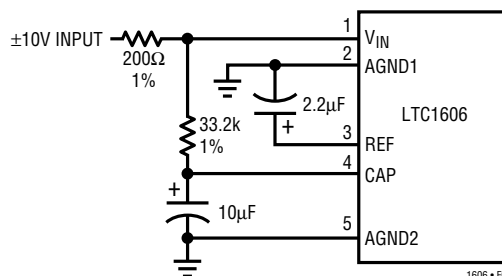
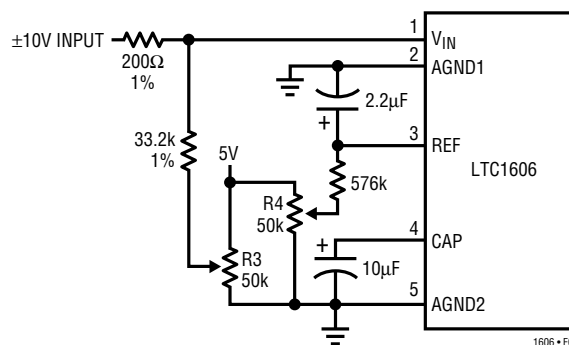

Figure 4.  $\pm 10V$  Input Without Trim
Figure 5.  $\pm 10V$  Input with Offset and Gain Trim
**Note 12:** As measured with fixed resistors shown in Figure 4. Adjustable to zero with external potentiometer.
The LTC1606 offset and full-scale errors have been trimmed at the factory with the external resistors shown in Figure 4. This allows for external adjustment of offset and full scale in applications where absolute accuracy is important. See Figure 5 for the offset and gain trim circuit. First, adjust the offset to zero by adjusting resistor R3. Apply an input voltage of  $-152.6\mu V$  ( $-0.5LSB$ ) and adjust R3 so the code is changing between 1111 1111 1111 1111 and 0000 0000 0000. The gain error is trimmed by adjusting resistor R4. An input voltage of  $9.999542V$  ( $+FS - 1.5LSB$ )